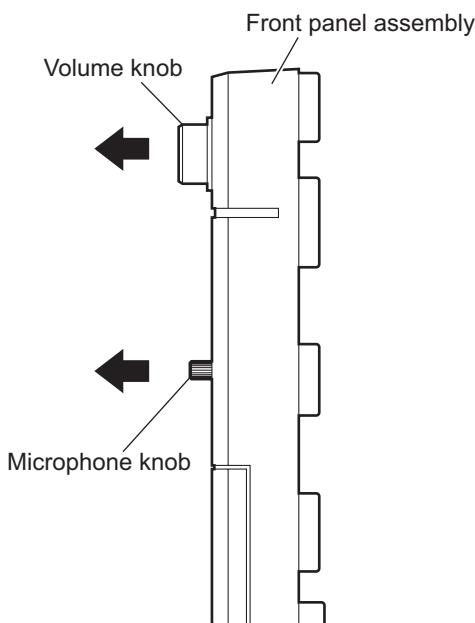

Fig.22
(See Figs.22 and 23)
- (1) From the front side of the front panel assembly, pull the volume knob out of the front panel assembly. (See Fig.22.)
(See Figs.22 to 24)
- (1) From the front side of the front panel assembly, pull the microphone knob out of the front panel assembly. (See Fig.22.)